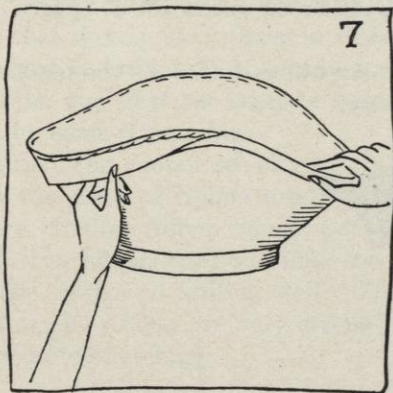

FIG. 7.
7. Turn ribbon binding over to opposite side of the brim, hiding the stitches just taken, so that no raw edge shows, and so that the selvage lies flat on the opposite side (see Figure 7).